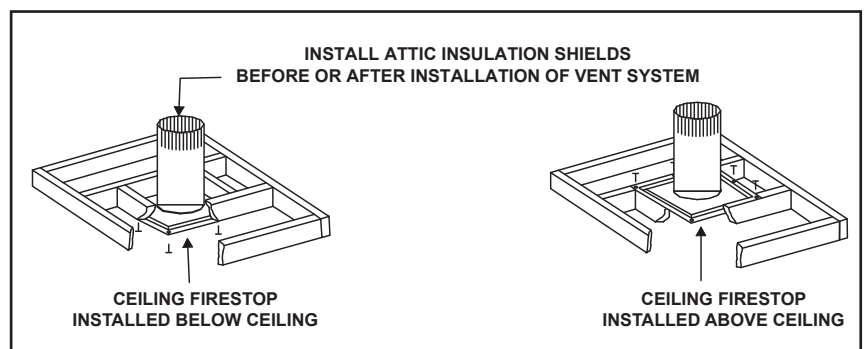

Figure 5.6 Installing the Attic Shield
- The ceiling firestop may be installed above or below the ceiling joists when installed with an attic insulation shield. It must be under joists between floors that are not insulated. Refer to Figure 5.6.